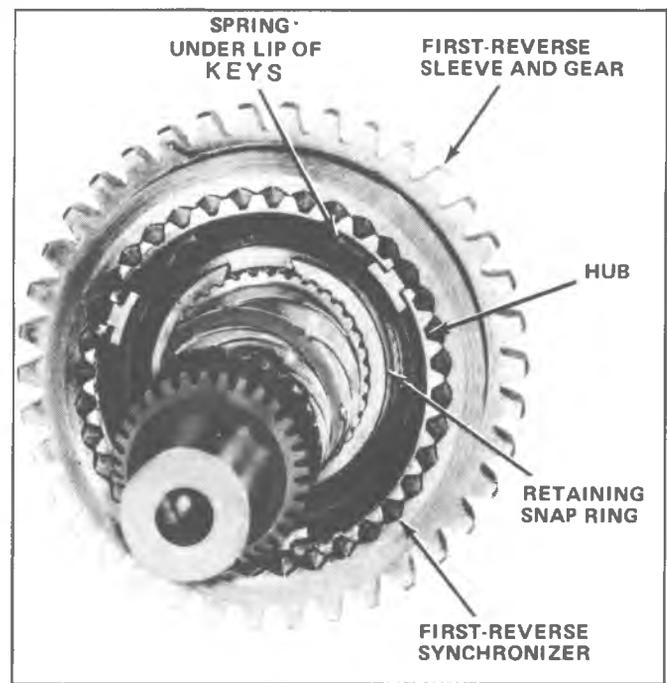

Fig. 7B-13B--First-Reverse Synchronizer Hub
23. Remove reverse idler gear and thrust washers by tapping shaft with hammer until end of idler gear shaft (end with roll pin) clears counterbore in rear of case and remove shaft (Fig. 7B-12B).